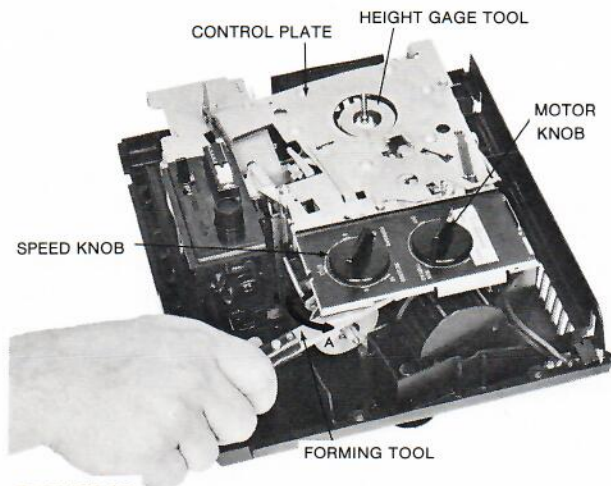

FIGURE 36
3. Place the HEIGHT GAUGE TOOL (Tool No. TL2070) on the SPINDLE DRIVER. The top of the tool must be flush with the top of the CONTROL PLATE, Figure 36.